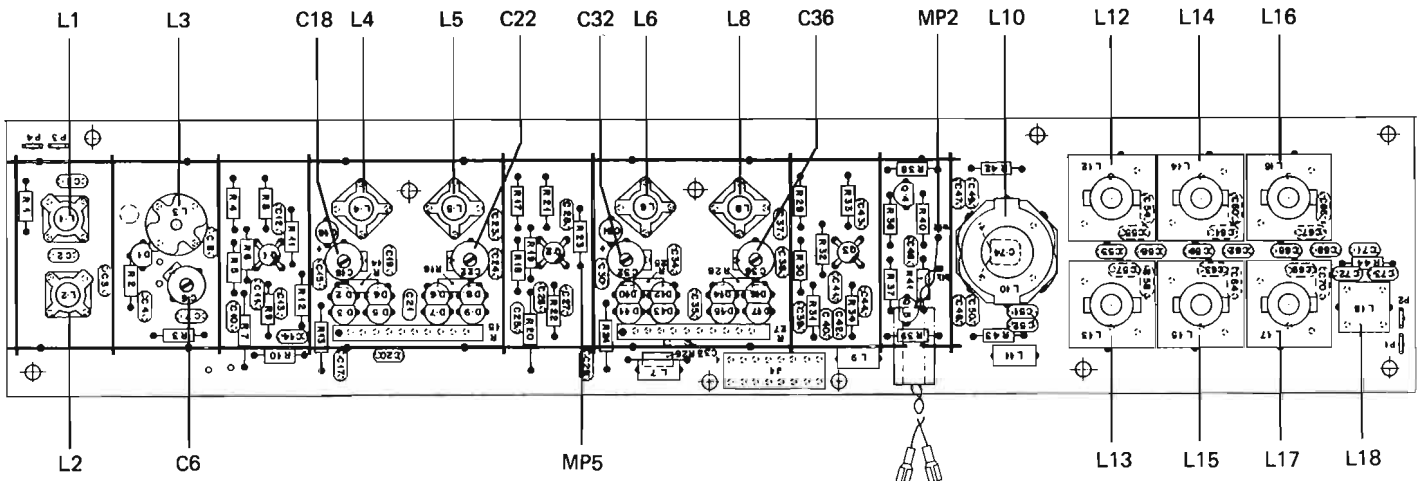
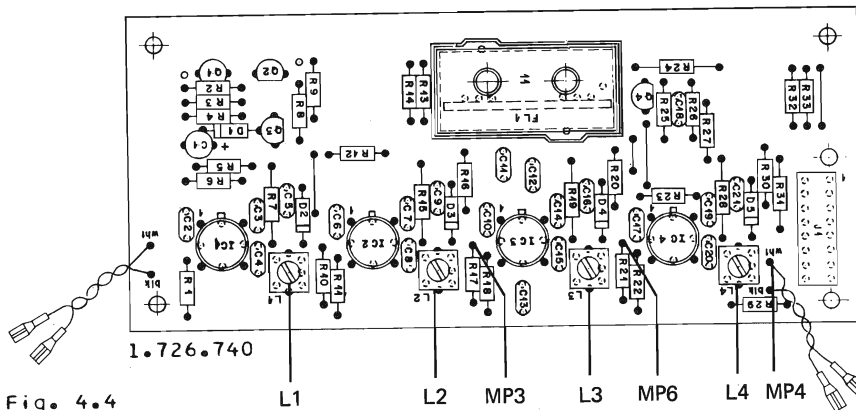

Fig. 4.3
Fig. 4.4
- Press station selector key 1 (87.5 MHz).
- Connect digital frequency counter to test point MP4 (white stranded wire, 1.726.740, Fig. 4.4).
- Connect RF voltmeter to test point MP3 (R17, IC3 Pin 1, 1.726.740, Fig. 4.4).
- Press station selector key 2 (90 MHz) and adjust L3 to L6 and L8 to maximum voltage on the RF voltmeter.
- Press station selector key 4 (106 MHz) and adjust C6/C18/C22/C32/C36 for maximum voltage on the RF voltmeter (Fig. 4.3).
- Connect digital frequency counter to test point MP4 (1.726.740, Fig. 4.4).
- Press station selector key 3 (98.0 MHz).
- Adjust L10/L12/L13 through L18 (1.726.730, Fig. 4.3) and L1/L2 (1.726.740), Fig. 4.4) for maximum reading on the RF voltmeter. Since there is mutual influence between the coils, these adjustments should be repeated several times.
- If these values are not attained, the settings of the trimmer slugs L10 and L12 through L17 (1.726.730, Fig. 4.3) should be changed until the specified tolerances are met. If a correction is necessary, it should be made with all trimmer slugs.
- Press station selector key 14
- Connect RF voltmeter to test point MP6 (R21, IC4, pin 1, 1.726.740, Fig. 4.4) and adjust L3 for maximum voltage.
- Connect RF voltmeter to test point MP4 and adjust L4 for maximum voltage (Fig. 4.4).